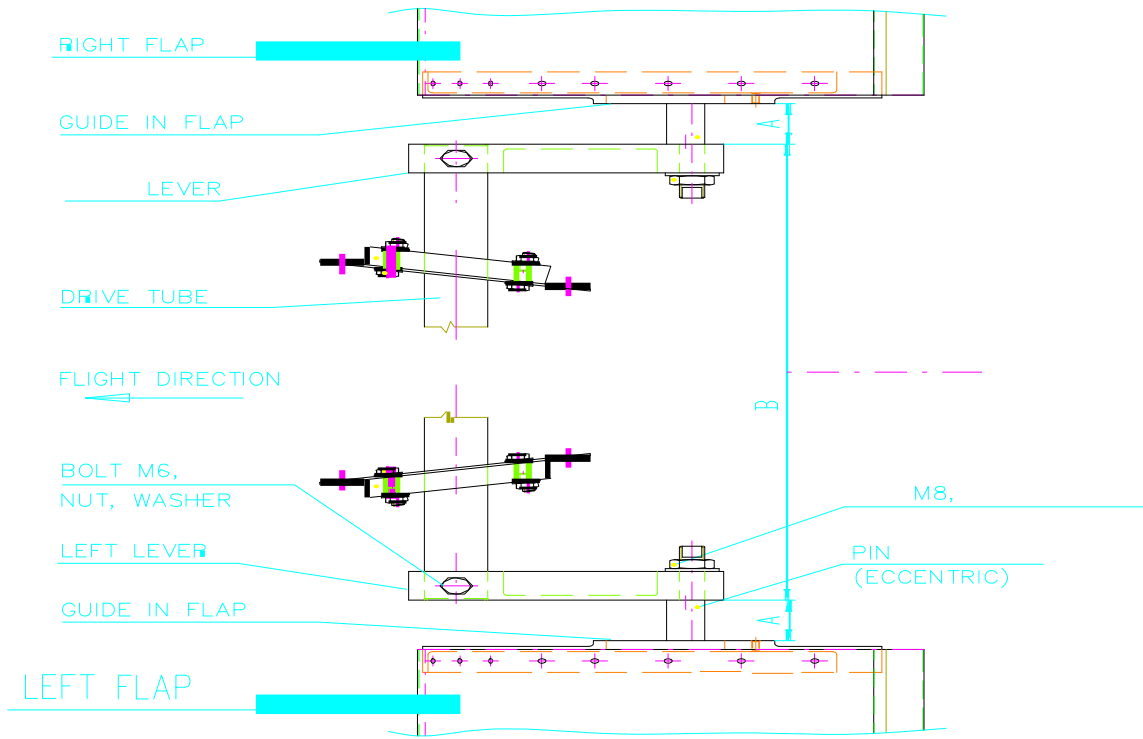

Fig.1
1. Check the engagement of the flap drive pins into the flaps. With reference to Fig 1, check the clearance between the drive lever with the pin and the nearest surface of the guide in